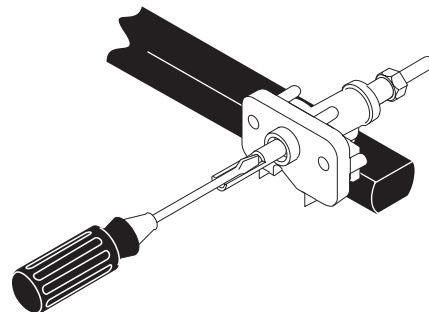

Figure 22: Turn to adjust surface flame
5. Insert a thin-bladed screwdriver into the hollow valve stem and engage the slotted screw inside as shown in Figure 22. Flame size can be increased or decreased by turning the screw.